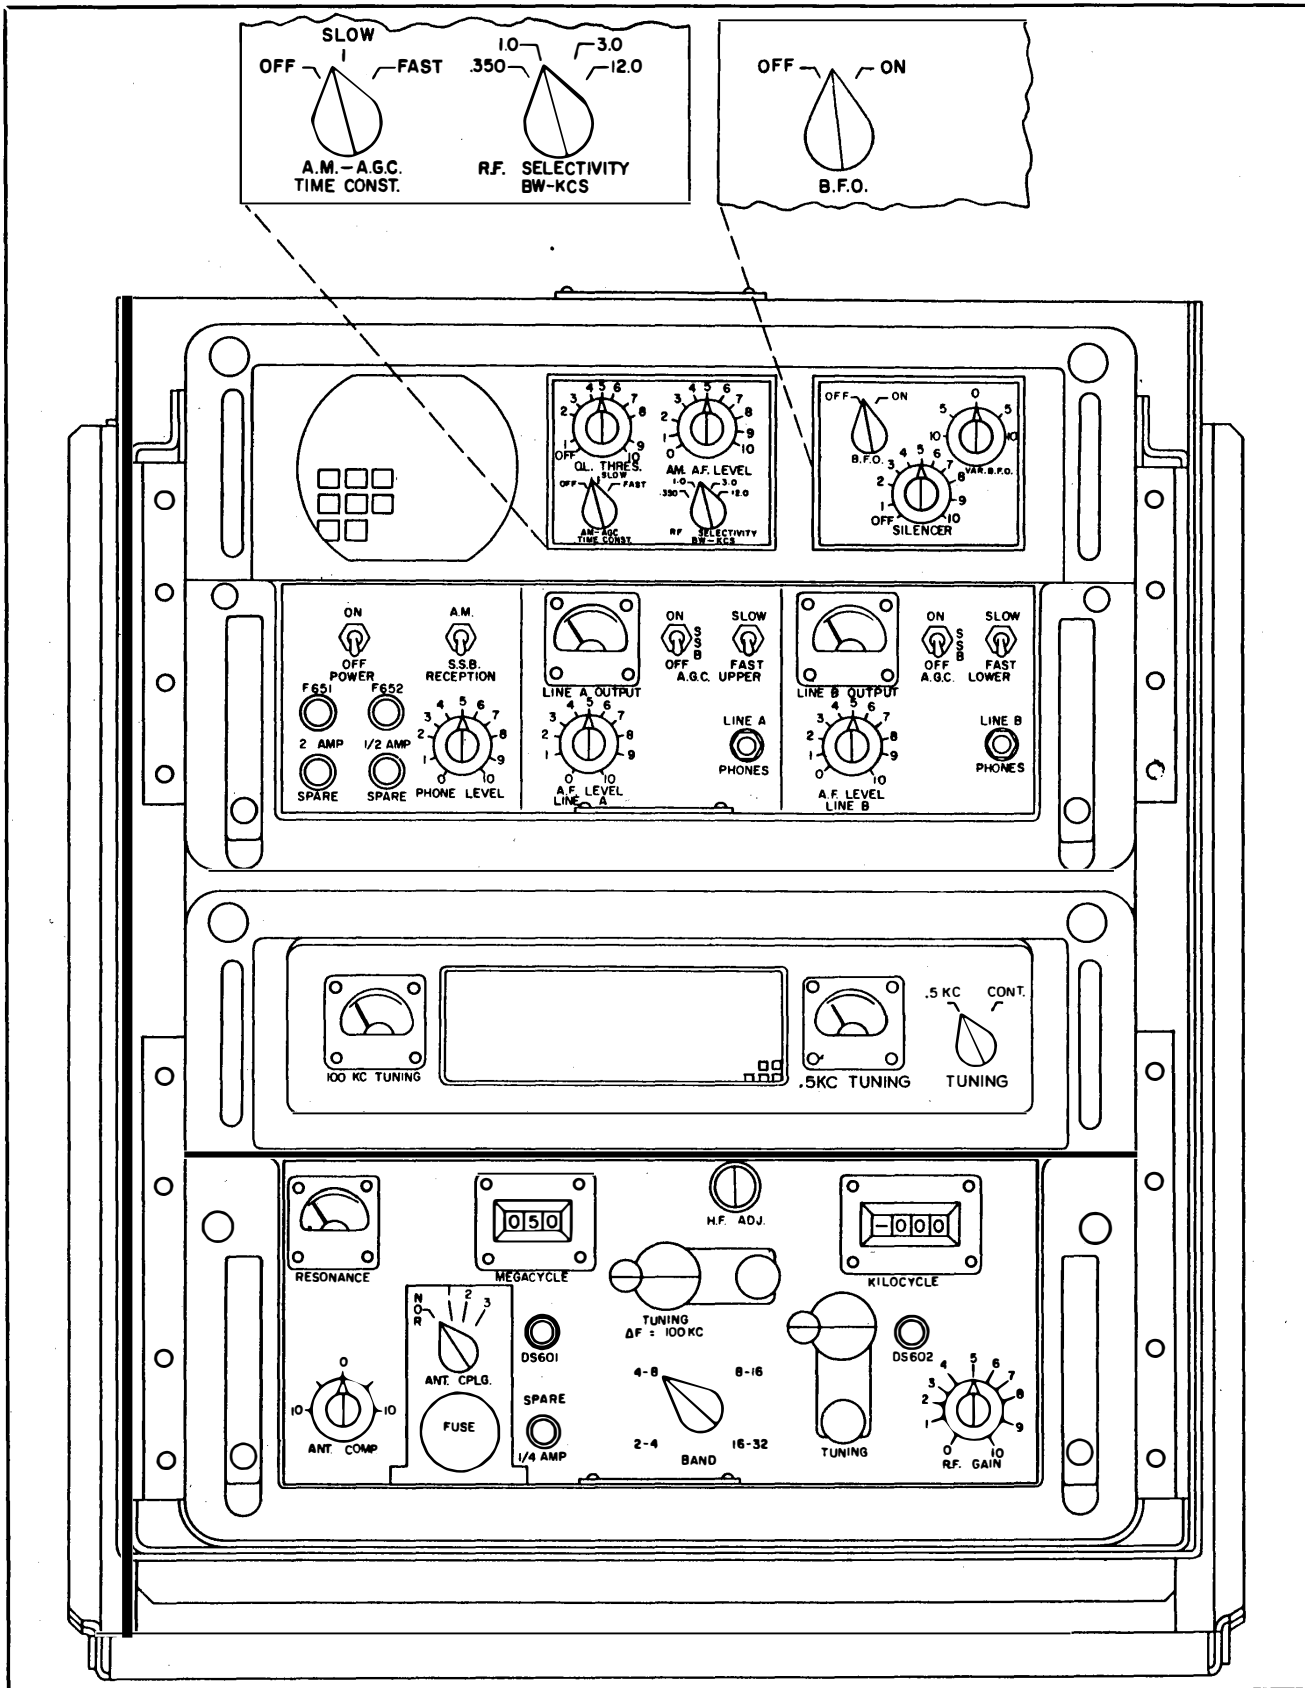

Figure 3-1. Radio Receiving Sets AN/WRR-2A and AN/FRR-59A, Front View
a. DESCRIPTION OF CONTROLS.— All controls required for normal operation are located on the front panels of the receiver except the .5 KC/CONT. TUNING control which is located behind the filter cover on the converter drawer. Controls accessible to the operator but not required for normal operation are listed in paragraph 3-2d. Table 3-1 contains a description of the functions of all operating controls and devices, and figure 3-1 shows the location of each panel control.